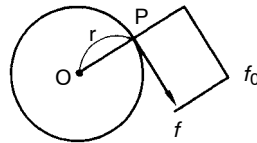

Fig. 15.7 Torque Definition
Torque is a moment of force that causes the rotation axis on the rotator to rotate about a center. As shown in Fig. 15.7, when external force  $f$  (N) is used in a tangential direction at point  $P$ , which is separated by the distance  $r$  (m) only from the center of rotation  $O$ , the torque  $T$  can be expressed using the following formula.